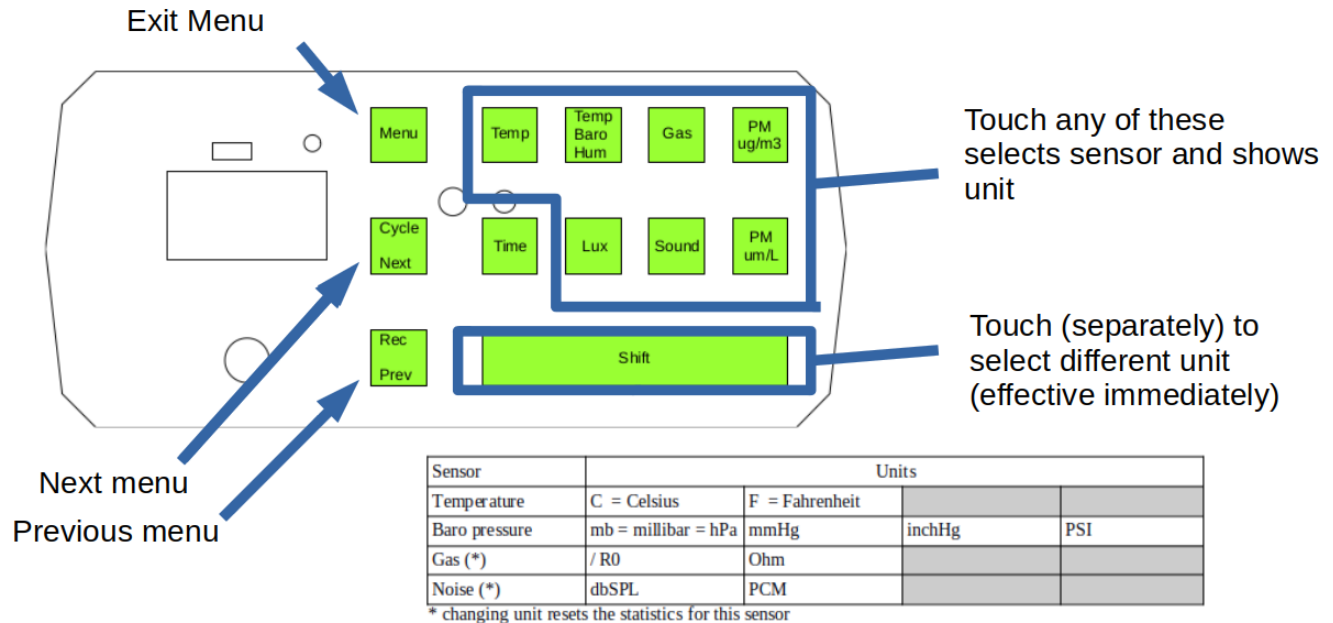

Figure 5: UNIT Menu Operation
3. For the other sensors, changing unit is just a display conversion and doesn't affect the underlying statistics at all. The same is true for the recording. The recorded values are always in the default units (first column in Figure 5).